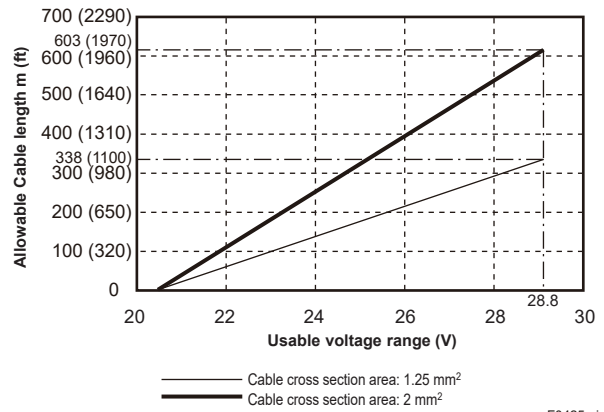

Figure 4.4.2 Supply Voltage and Power Supply Cable Length (Integral Flowmeter and AXG4A Remote Transmitter)
- For the 24 V power supply version (power supply code -2), the specification of 24 V (-15% to +20%) is the supply voltage between the terminals on the transmitter. Because of voltage drop by cable resistance, the supply voltage must be applied within the range of Figure 4.4.2.